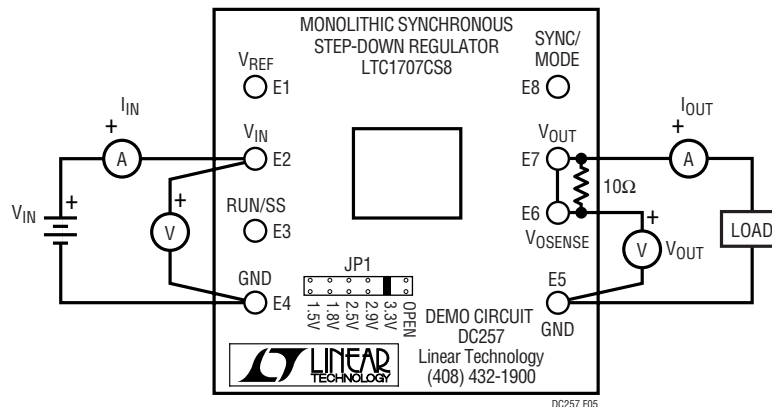

Figure 5. Proper Measurement Setup
- Refer to Figure 5 for proper connection of monitoring equipment to ensure correct measurement.
When trying to measure voltage regulation, remember that all measurements must be taken at the point of regulation. This point is where the LTC1707’s control loop looks for the information to keep the output voltage constant. In this demonstration board, this information point occurs between Pin 4, the GND of the LTC1707, and the output side of R7. These points correspond to the GND (E5) and V_{OSENSE} (E6) terminals of the board. Output voltage test leads should be attached directly to these terminals. The load should be placed between V_{OUT} (E7) and GND (E5). Measurements *should not* be taken at the end of test leads at the load. Refer to Figure 5 for the proper monitoring equipment configuration.